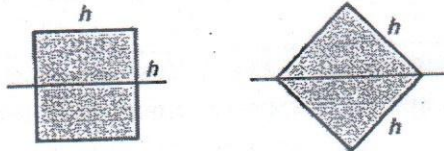

Fig. 5
3. (a) For a linearly elastic material, at the same maximum stress for a square member (10) in the two different positions shown in Fig. 5, determine the ratio of the bending moments. Bending takes place around the horizontal axis.